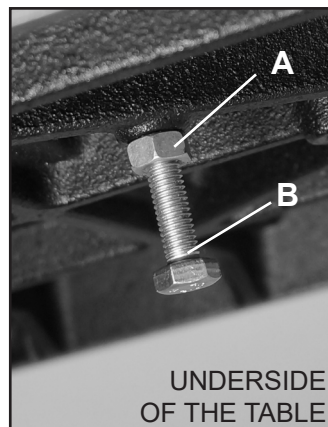

FIGURE 11
1. At the rear of the saw, loosen the Quick Locking Handle (#88A) on the table trunnion by pulling it upward. Fig.11, A.
2. Turn the table tilting Handwheel (#23B) to adjust the table to the desired angle. Fig. 11, B. Use the angle indicator scale on the trunnion bracket (C) to find the desired angle.